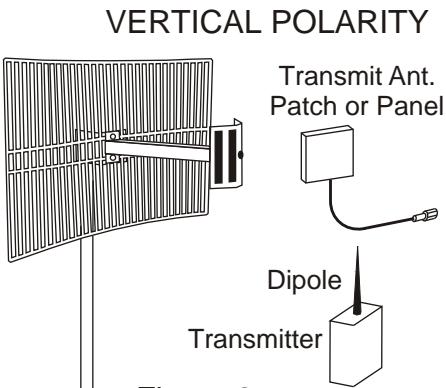

Figure 2
- Determine the polarity of the antenna. (Fig. 2 & 3)